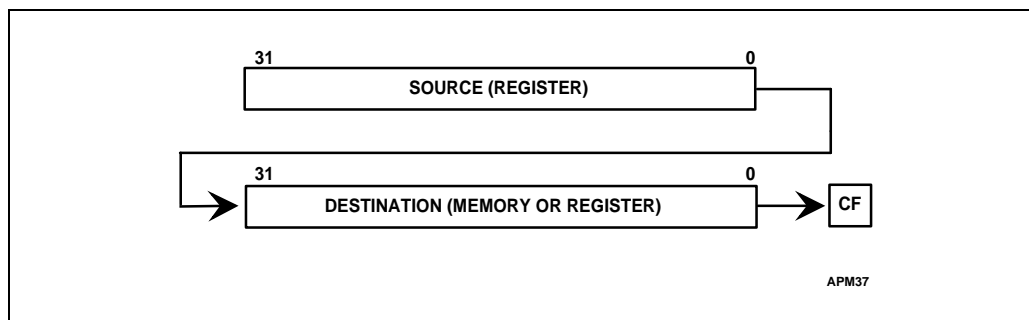

Figure 4-10. SHRD Instruction
**SHRD (Shift Right Double)** shifts bits of the destination operand to the right, while filling empty bit positions with bits shifted out of the source operand (see Figure 4-10). The result is stored back into the destination operand. The source operand is not modified.